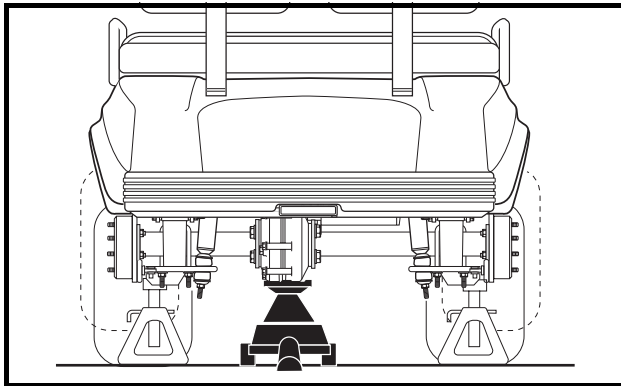
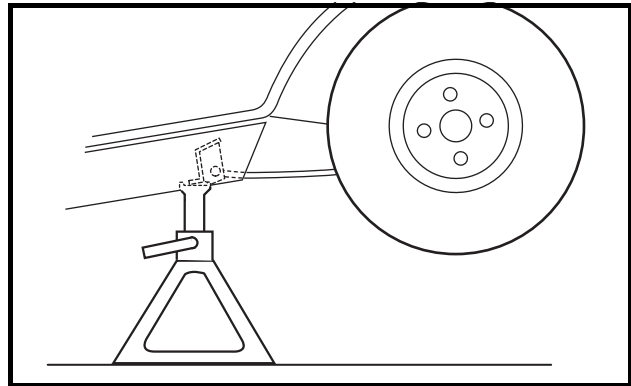

Figure 16-1 Lift Vehicle with Floor Jack
Figure 16-2 Vehicle Supported on Jack Stands
4. Place floor jack under transaxle and raise rear of vehicle (**Figure 16-1, Page 16-3**) then place jack stands under frame crossmember between the spring mount and the side stringer, just forward of each rear wheel. Lower the vehicle to let the jack stands support the vehicle (**Figure 16-2, Page 16-3**). See following **WARNING**.